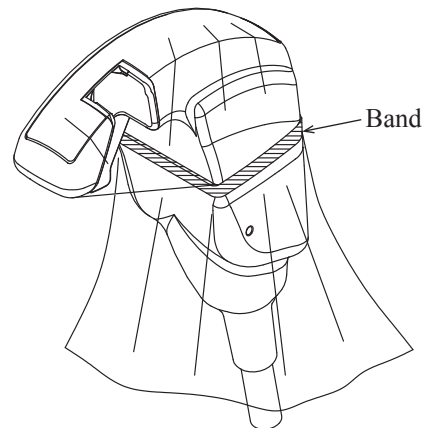

Figure 6 Fixing of the probe cover
- (3) Place a sterile rubber band into the groove of the probe to fix the probe cover to the probe (Figure 6).